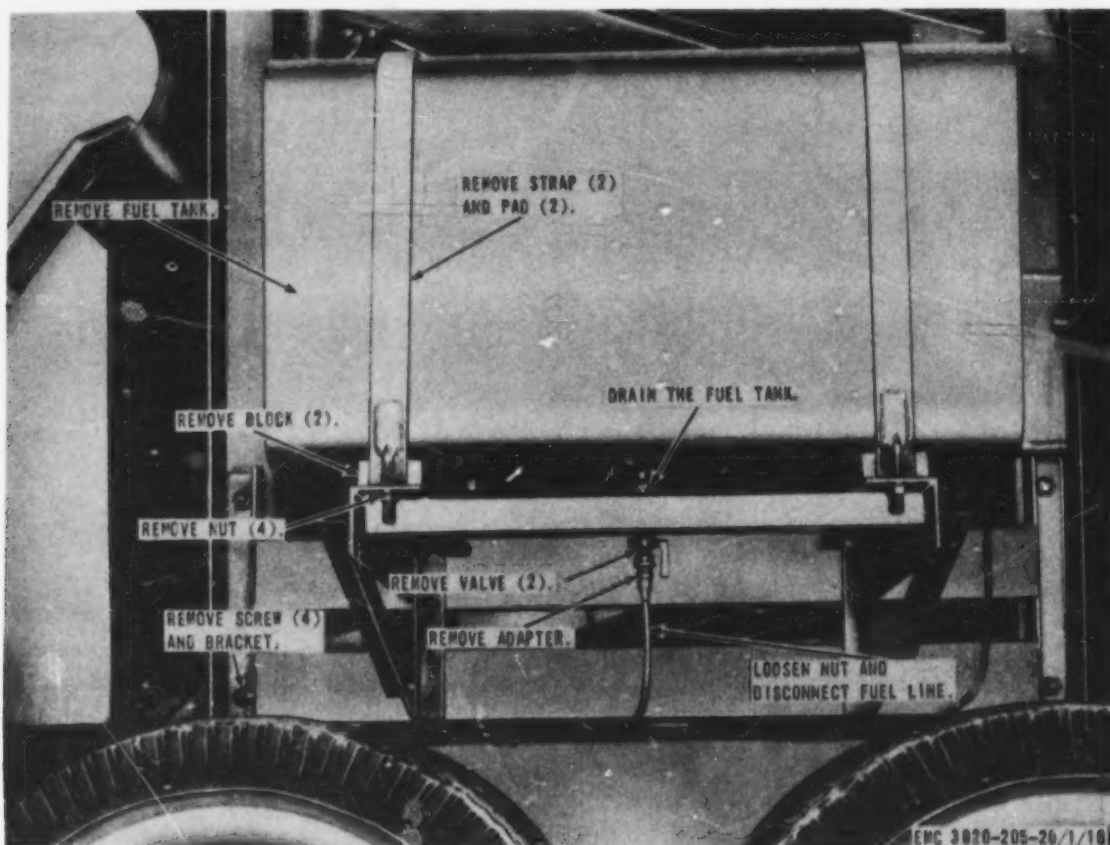

Figure 21. Fuel tank and brackets, removal and installation.
- (1) Remove the fuel gage (par. 54).
- (2) Remove the fuel tank cap and strainer (TM 5-3820-205-10/1).
- (3) Remove the fuel tank and brackets from the unit as instructed on figure 21.
- (1) Install fuel tank and brackets on the unit in reverse of the instructions on figure 21.
- (2) Install the fuel tank cap and strainer (TM 5-3820-205-10/1).
- (3) Install the fuel gage (par. 53).